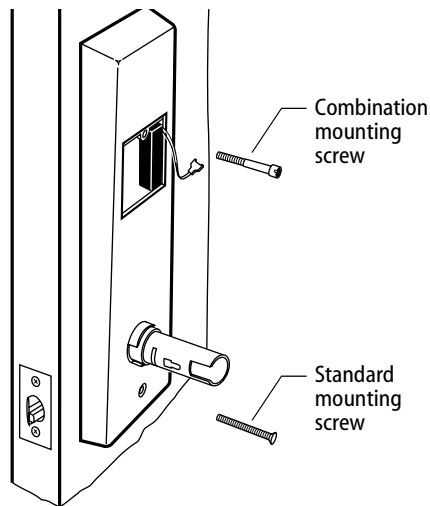

Figure 12
- 2 Tighten the trim mounting screws (see Figure 12).